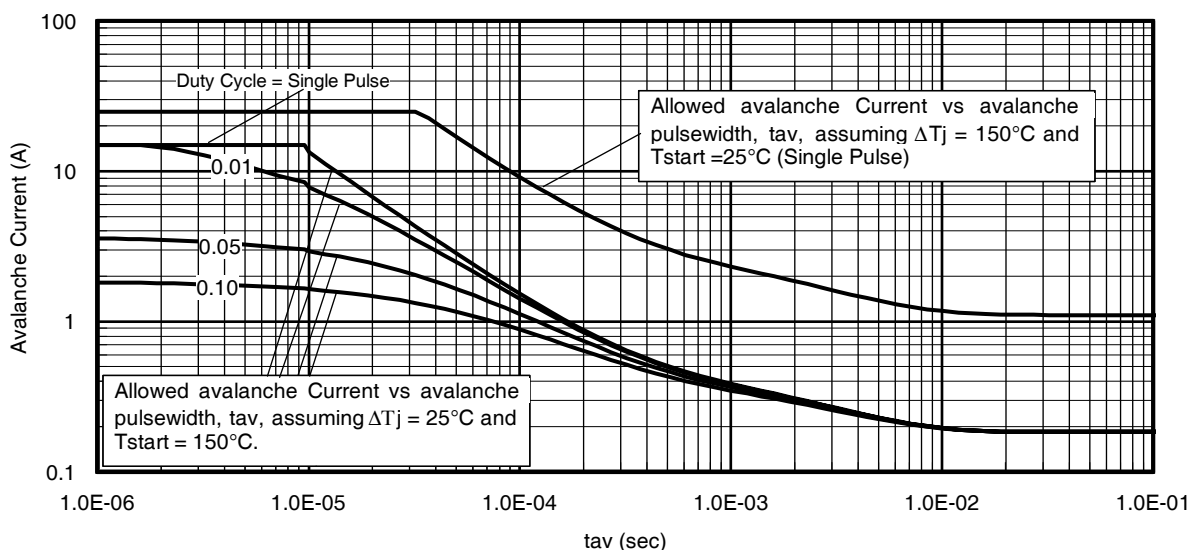

Fig 14. Typical Avalanche Current Vs. Pulsewidth
- ① Repetitive rating; pulse width limited by max. junction temperature.
② Starting $T_J = 25^\circ\text{C}$, $L = 1.00\text{mH}$, $R_G = 25\Omega$, $I_{AS} = 15A$.
③ Pulse width $\leq 400\mu s$; duty cycle $\leq 2\%$.
④ R_θ is measured at T_J of approximately 90°C .
⑤ Limited by T_{Jmax} . See Figs. 14, 15, 17a, 17b for repetitive avalanche information
⑥ When mounted on 1" square PCB (FR-4 or G-10 Material). For recommended footprint and soldering techniques refer to application note #AN-994.
Notes on Repetitive Avalanche Curves , Figures 14, 15:
7. ΔT = Allowable rise in junction temperature, not to exceed T_{jmax} (assumed as 25°C in Figure 14, 15).